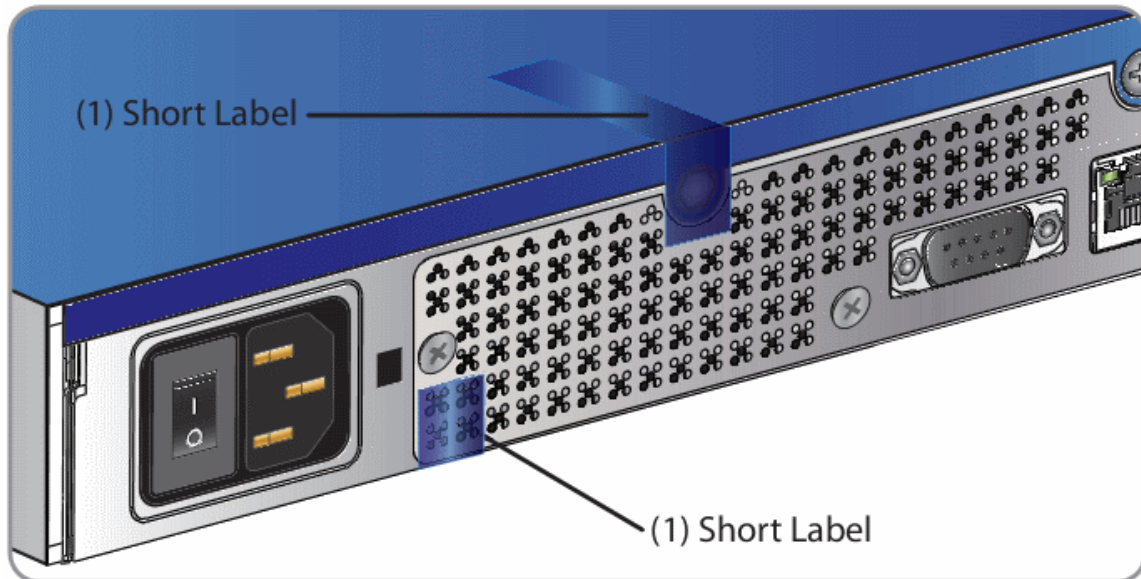

Figure 9 Tamper Evident Label Placement on Left Rear of Appliance
4. Apply two (2) labels to the rear baffle on the left side of the appliance as shown below in Figure 9.
- Apply one (1) label vertically over the upper-left (when looking from the rear of the appliance) flush mount hexagonal insert and the rear baffle. Make sure the label does not interfere with any of the vents; the remaining label material crosses over the top edge of the appliance.
- Apply one (1) label vertically over the lower-left corner of the rear baffle. The label should cover the bottom 2 rows, across two columns of ventilation holes. The remaining label material crosses over the bottom edge of the appliance